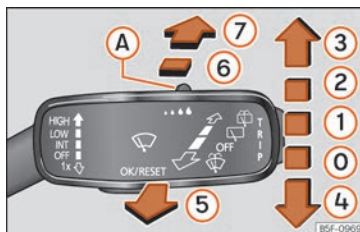

Fig. 140 Window wiper lever.
- Give the windscreen a **brief** wipe by moving the lever down to position **4** » **Fig. 140**.
- Push the lever up to position **1** » **Fig. 140**.
- Push the lever up to position **2** » **Fig. 140**.
- Push the lever up to position **3** » **Fig. 140**.
- Pull the lever towards the steering wheel, position **5** » **Fig. 140**, and the windscreen washer and wipers are switched on.
- Press the lever forward to position **6** » **Fig. 140** and the rear window wiper will run every 6 seconds.
- Press the lever fully forward to position **7** » **Fig. 140** and the rear window wiper and washer switch on at the same time.
- Move the lever to position  » **Fig. 140.**
The headlight washers operate briefly if the dipped headlights or headlights are on and the lever is moved to position  » **Fig. 140.** The headlight washer system also operates every 10 windscreen wash cycles.